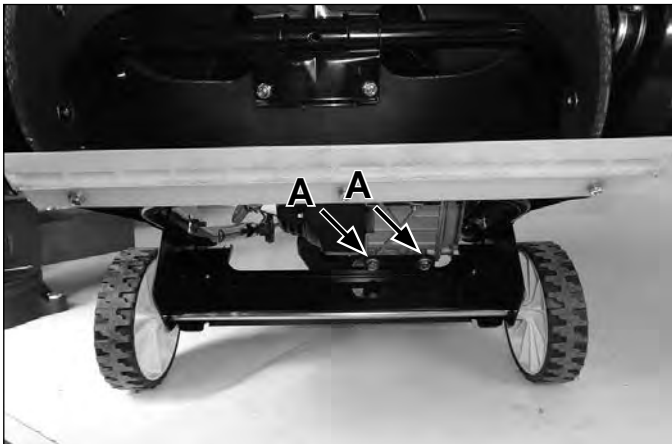

Fig. 004
4. From the underside of the chassis, remove the two engine mounting bolts (A) (Fig. 004).